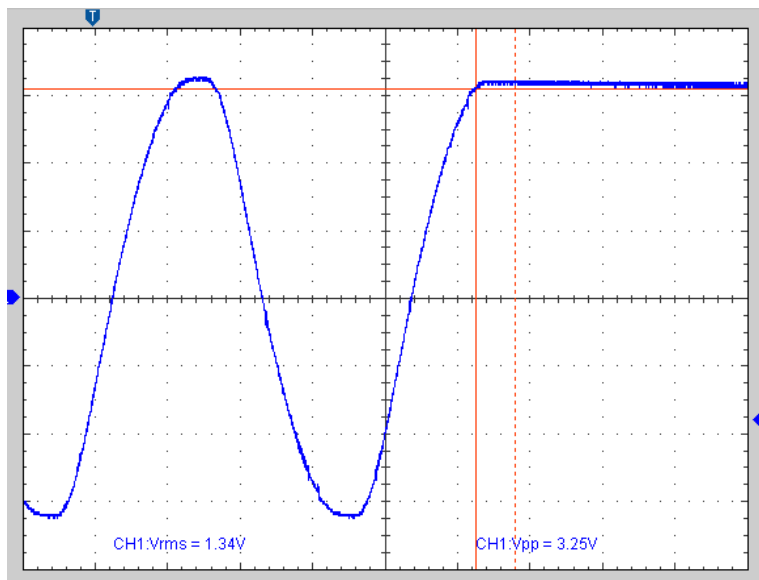

Figure 9. Range accepted for disconnect.
- 7.3. To be within 5% of the peak, the disconnect needs to occur in the time between the two vertical red lines shown below in **Figure 9**.